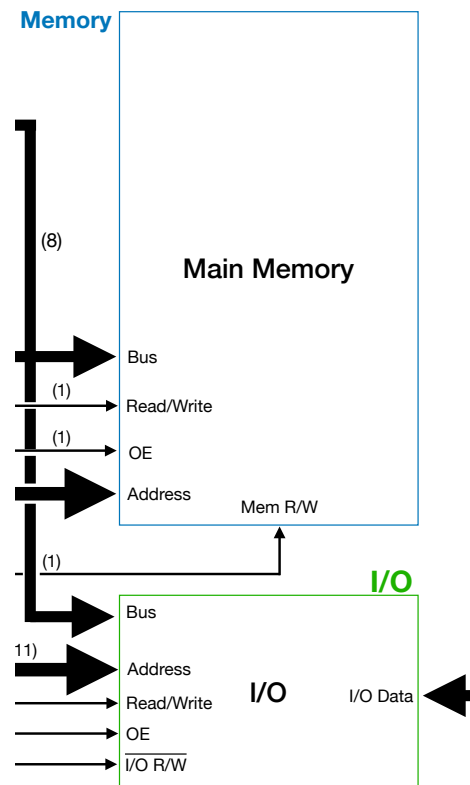

Fig. 3. Main Memory and I/O Memory
- Create the function and `void MainMemory(void)`. Maintain the memory arrays created in Laboratory Exercise 2. Accessing the main memory and I/O memory requires calling the functions which returns the instruction/data pointed to by the *address bus* (*ADDR*). For example, reading data from main memory; `dataMemory[ADDR]`. The latter access data at address pointed to by *ADDR*. In this case, *IOM* = 1 and *RW* = 0 since the operation is main memory access and data read is performed. The control signal *OE* will signal the start of read operation. This is important so that no data collision will happen especially when the reading from or writing to the accumulator (*ACC*). *OE* should be ‘1’ only if the operation requires access to the main or IO memory access or any bus operations. Data read from memory is assigned to the bus. See Fig. 3 for the block diagram of the Main Memory and I/O Memory. Refer to the code below: